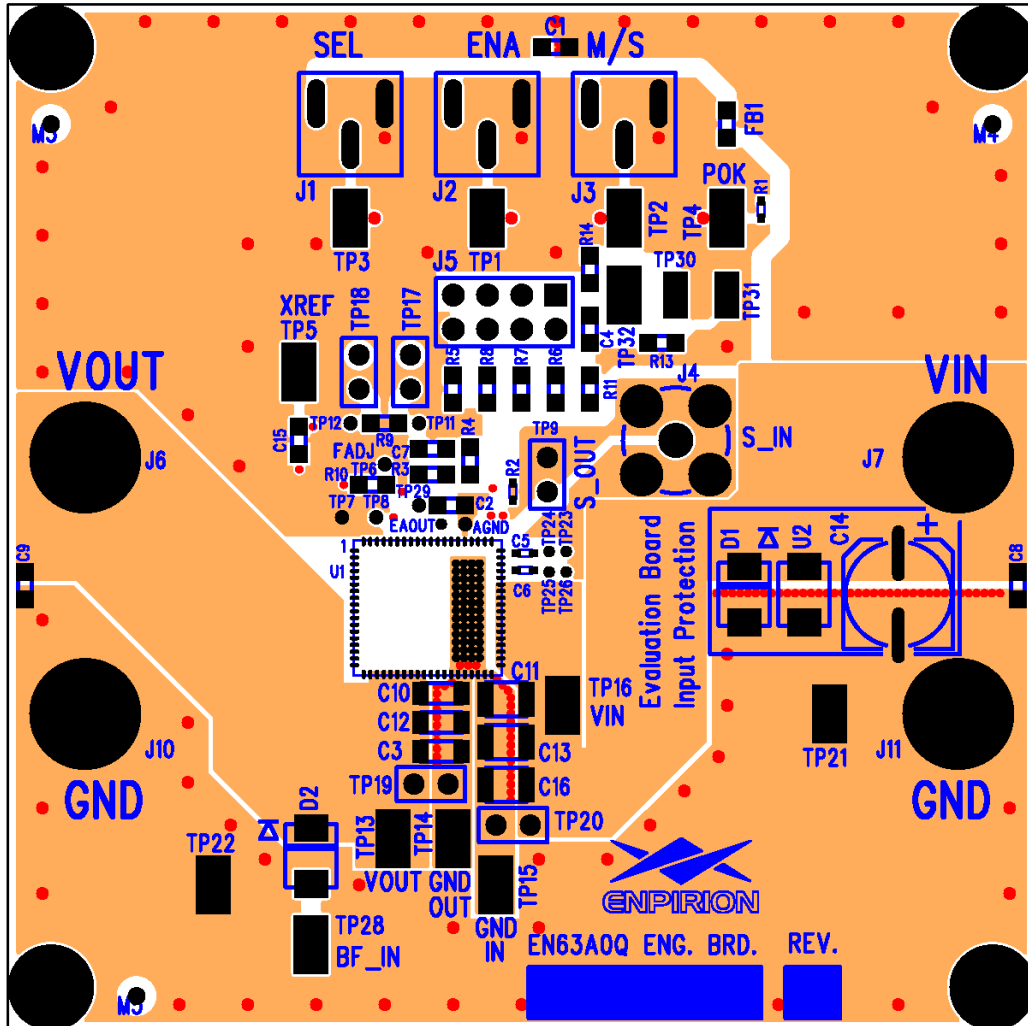

Figure 4: Evaluation Board Layout Assembly Layer.
**STEP 5:** Connect Power Supply to the input power connectors, VIN (J7) and GND (J11) as indicated in Figure 4 and set the power supply to the desired voltage ( $\leq 6.6V$ .)
**STEP 6:** Connect the load to the output connectors VOUT (J6) and GND (J10), as indicated in Figure 4.